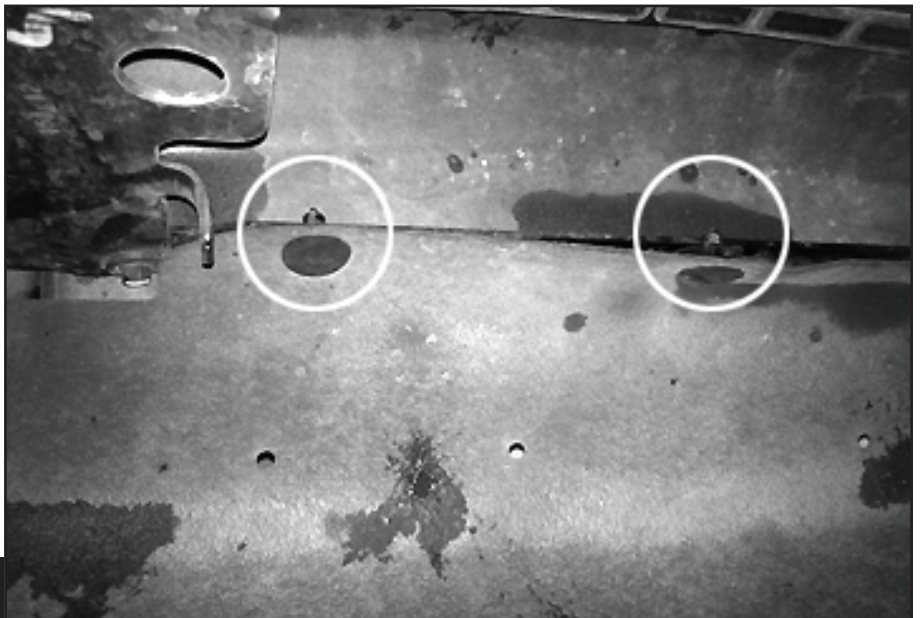

Fig 4
4. Detach rubber flap from bumper. There are (3) push clips to be removed (**Fig 4**).